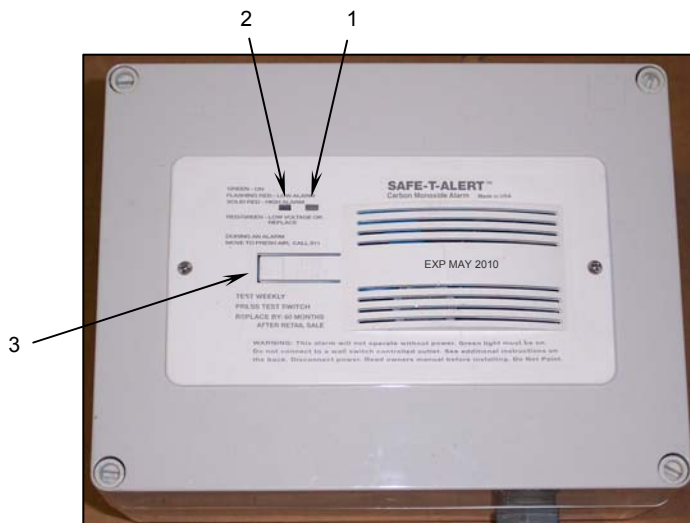

Figure 28. CO Monitor Alarms.
- Flashing red light (**Figure 28, Item 1**) and four audible beeps
- Cycle continues until TEST/RESET button (**Figure 28, Item 2**) is pressed
- Indicator light alternates flashing green and red lights (**Figure 28, Item 3**) and one audible beep every 30 seconds